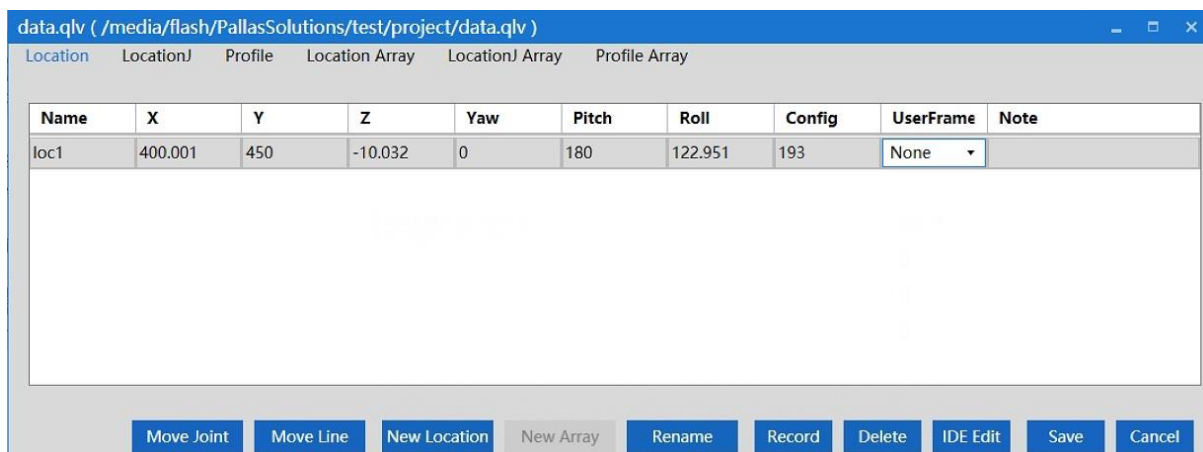

Figure 6-33 New Location
Step 1 New Location; Click "New Location" in "Location", and the point information of the current robot's Cartesian position will appear in the interface. The point name is the default name, and you can click Rename to modify it, as shown in Figure 6-33.